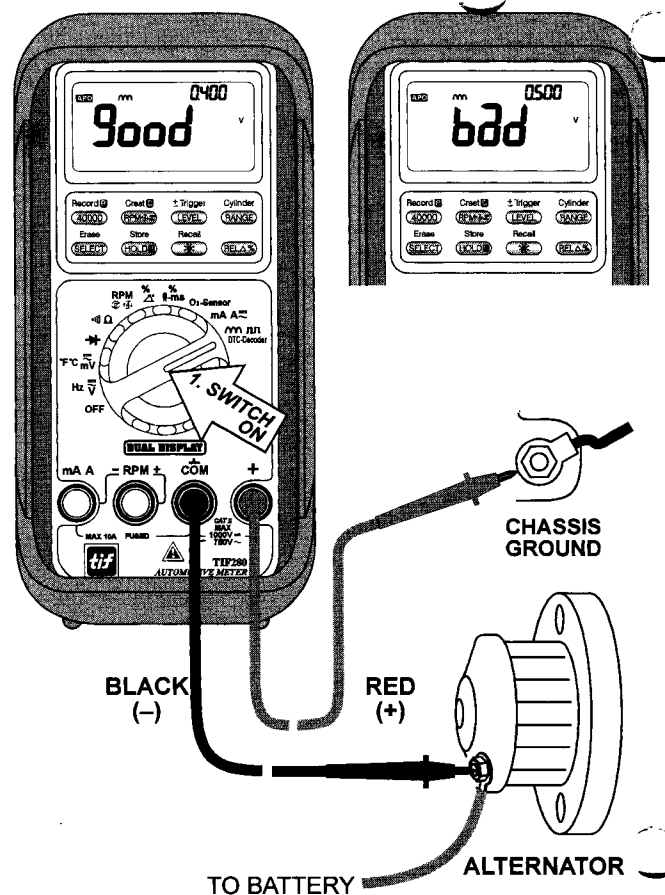

FIG 13. MM ALTERNATOR TESTER FUNCTION
- 4) Connect the test leads as shown in **FIG 13** and observe the digital display